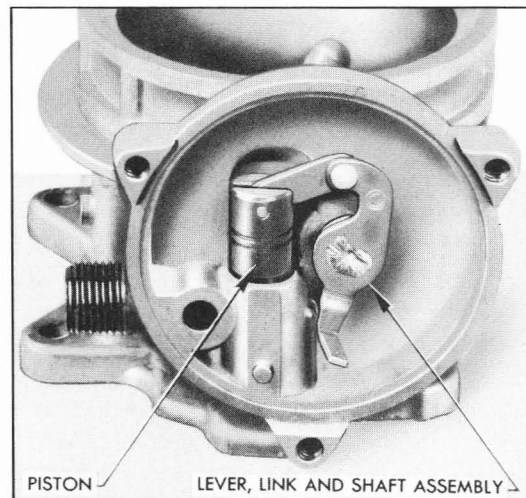

Figure 3-41—Removing Shaft and Piston
1. Connect choke piston to shaft link with piston pin, install shaft in air horn, and guide piston into cylinder. See figure 3-41.